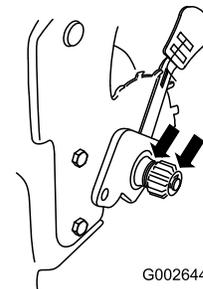

Figure 42
2. Apply a lubricating oil to the inner and outer sides of the gear as shown in Figure 42.